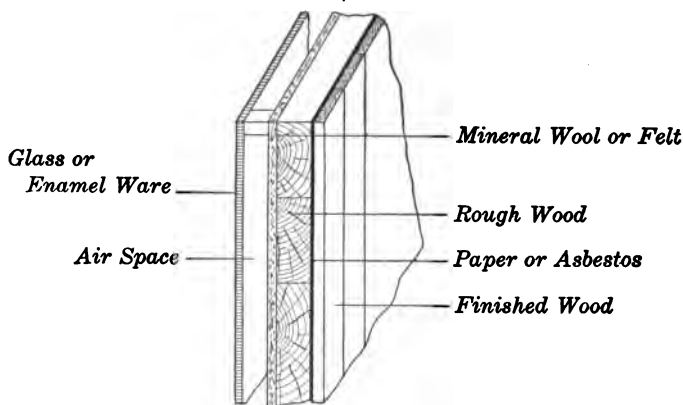

FIGURE 28. — THE CROSS SECTION OF A REFRIGERATOR WALL.
52. The Refrigerator. — The refrigerator (Figure 28) uses non-conducting substances for its walls. On the outside is usually wood; next is an insulating layer of paper; then another of wood; then a layer of asbestos or felt; and then an air space. The inside material is usually glass,